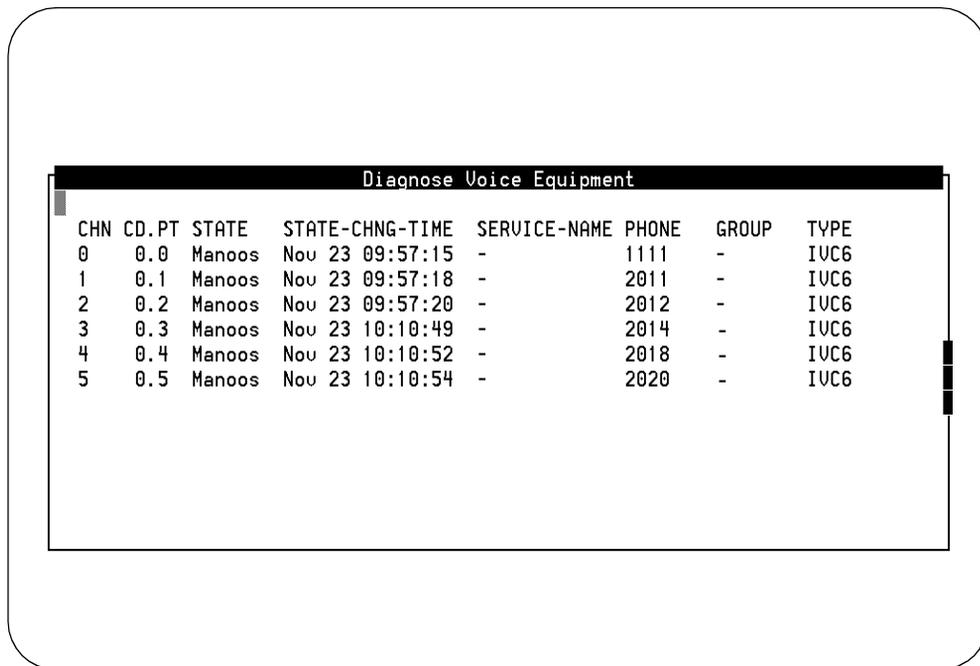
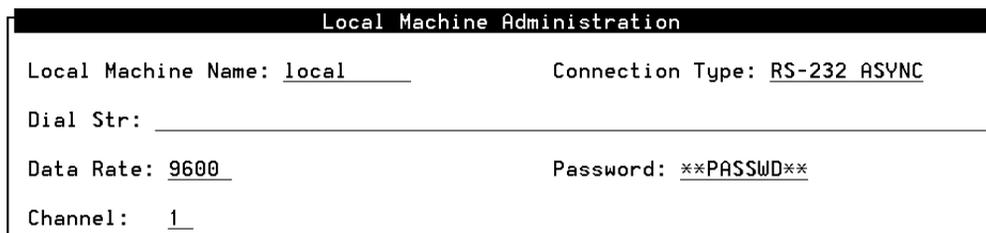

Figure 1. Example of an Lucent INTUITY Window
Figure 2. Example of an Lucent INTUITY Window
- The Lucent INTUITY system displays *windows*, *screens*, and *menus*. “Windows” show and request system information (Figure 1 and Figure 2, respectively). “Screens” request that you enter a command at the `enter command: prompt` (Figure 3). “Menus” (Figure 4) present options from which you can choose to view another menu, or a screen or window.